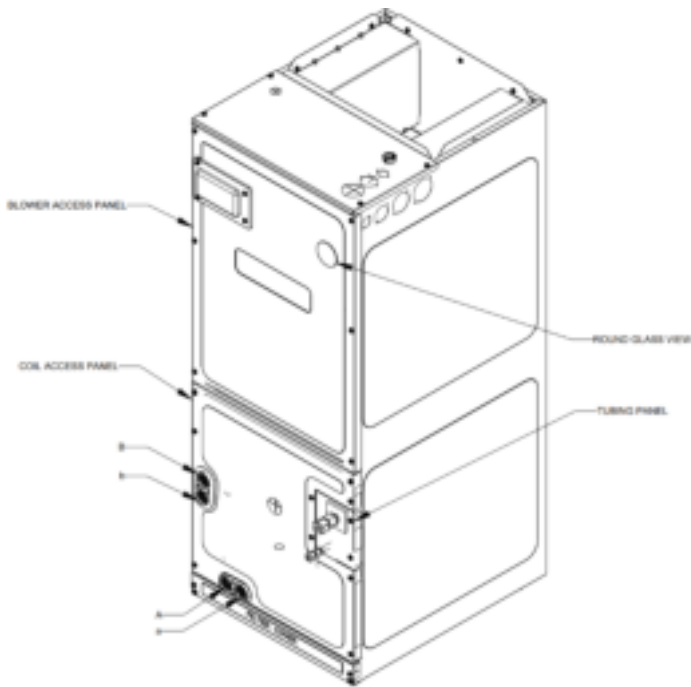

Figure 11
7. As shown in Figure 11, two drain ports located at the bottom drain pan (horizontally oriented) are to be used for upflow and downflow applications and the two on the side drain pan (vertically oriented) are to be used when the unit is in horizontal right or left configuration. When the unit is in upflow or downflow configuration, the drain ports located on bottom drain pan must be plugged and vice versa. Drain ports located at lower elevation (closer to the ground) in either configuration must be connected to the main drain line and the higher is for the secondary drain line.